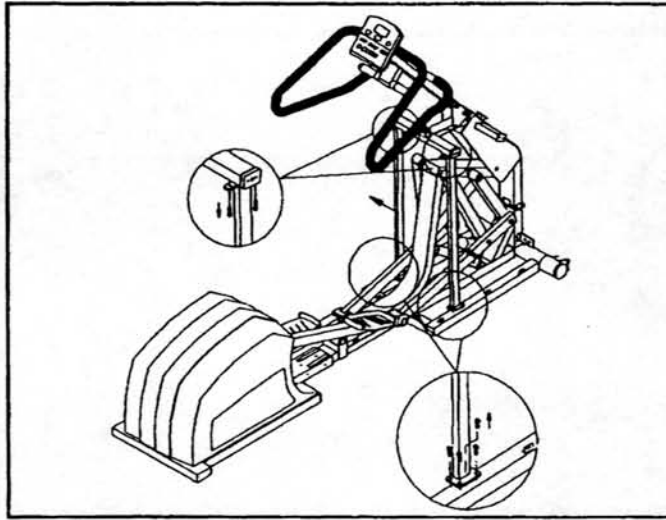

Fig.21-1
1. Remove the MAIN SHROUD, please refer to the MAIN SHROUD REMOVAL AND INSTALLATION PROCEDURE (page 8) for the details and (see fig.21-1).
2. Remove the right side of STAIR ARM JOINT COVER by releasing two screws (see fig 21-1. ①) firstly.